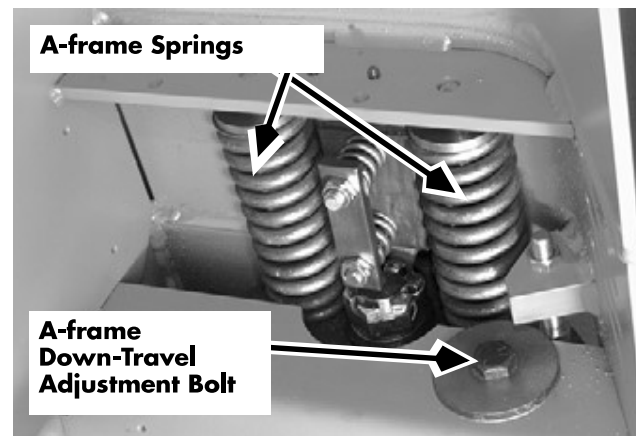

Figure 2-3: Verify A-frame Down-Travel Adjustment Bolt
6. Before jacking the lift truck, check the A-frame down-travel adjustment bolt. See Figure 2-3. If the bolt is missing, or the hole through which it passes is excessively worn, the A-frame will not be held in place when the lift truck is jacked up; the A-frame could pivot down and allow the springs to fall out.